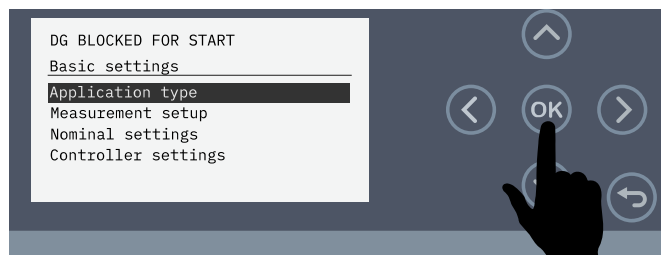

Figure 46. Select Application Type
4. Make sure **Application Type** is highlighted (Figure 46), then press the OK button.